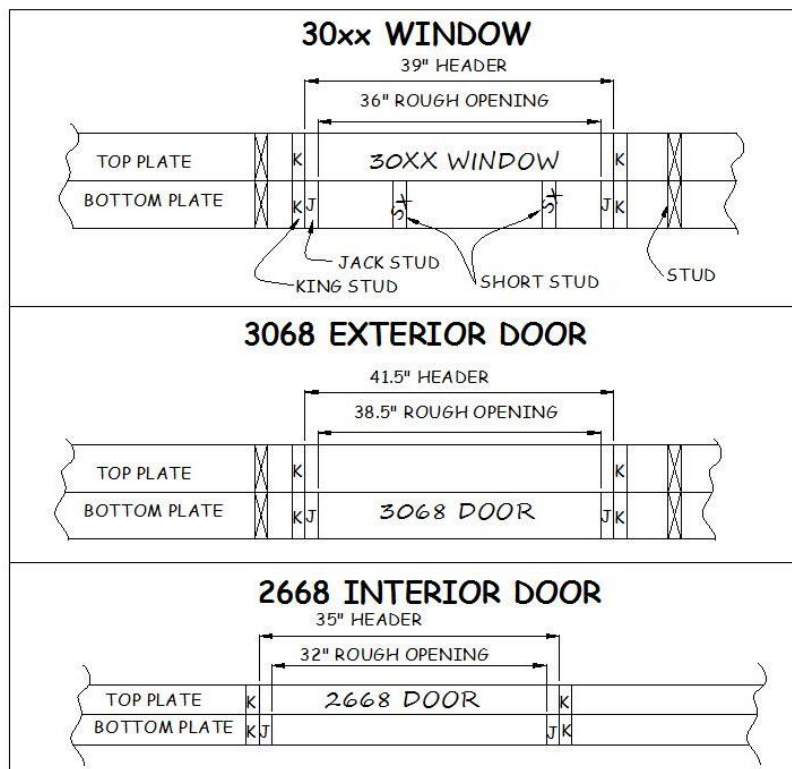

Figure 3-4. Plate Marking for Doors and Windows.
3. Referring to the window or door sizes indicated on the Plate Layout Drawing, measure and mark the location of the King and Jack studs that support the header (see Figure 3-4.). Window and door sizes are indicated with a four-digit code. The first two digits represent the width of the opening in feet and inches. The second two digits represent the height of the opening in feet and inches. For example, a 3040 window is 3'-0" wide by 4'-0" high (i.e., 36" wide by 48" high).